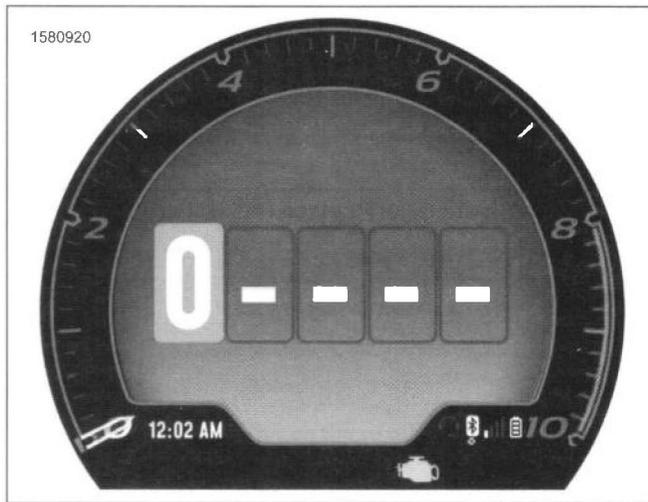

Figure 8-51. PIN Entry Screen
- c. See Figure 8-51. The PIN screen will display.
1. See Figure 8-51. Select the first digit of the PIN.